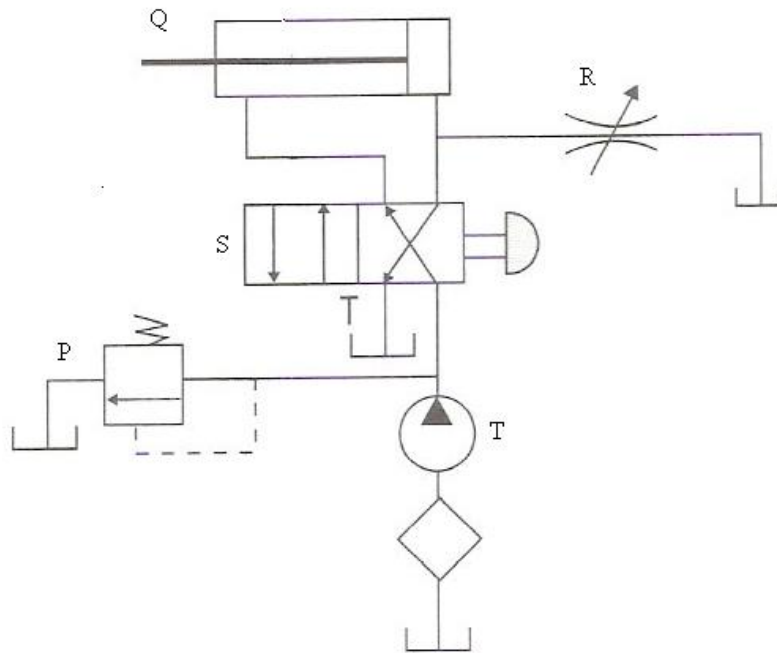

Figure 7
16. By referring to Figure 7, state the function of each component by writing P, Q, R, S or T in the boxes provided.